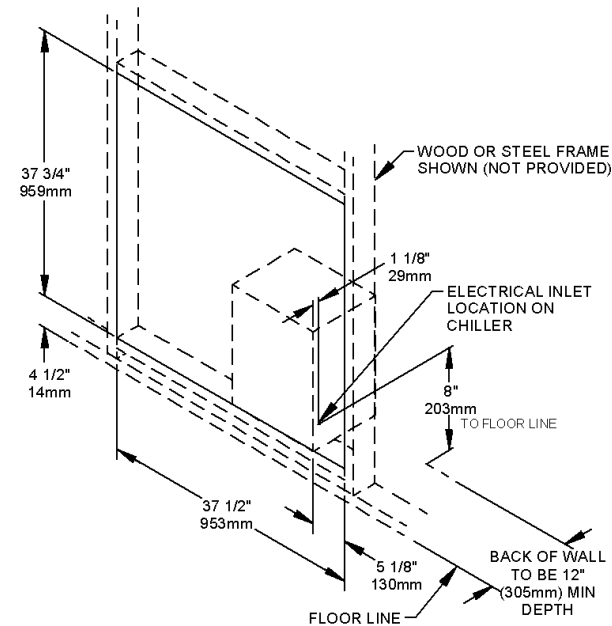

Figure 7 – Rough-In Assembly
1. **Cut a rectangular wall opening** 37-1/2" (953 mm) W x 37-3/4" H (959 mm) and 4-1/2" (114 mm) above the floor line (see Figure 7). The dimensions are required to obtain proper rim and bubbler heights for compliance with ANSI standard A117.1.